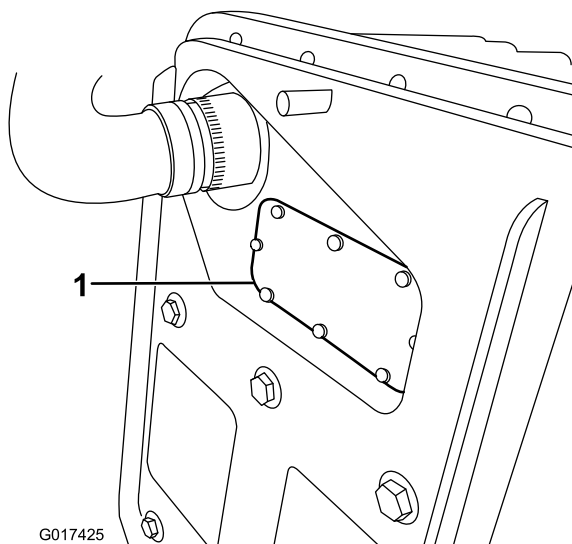

Figure 37
- B. Remove the fuse cover (Figure 37).